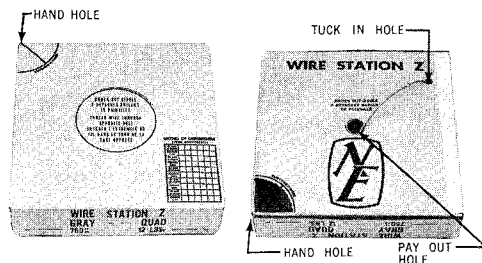

Fig. 1 — Feeding Jacketed Wire
1.02 This section is reissued to revise Fig. 1 to show hand holes in the carton to provide easier handling.
- (1) Punch out perforated holes from carton.
- (2) Place carton on floor and feed wire from centre of coil (Fig. 1).
- (3) Use small hole to tuck in wire after use of coil.